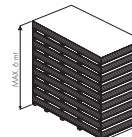

fig 5.
- Maximale stapelhoogte = 6 meter. (fig 5.)